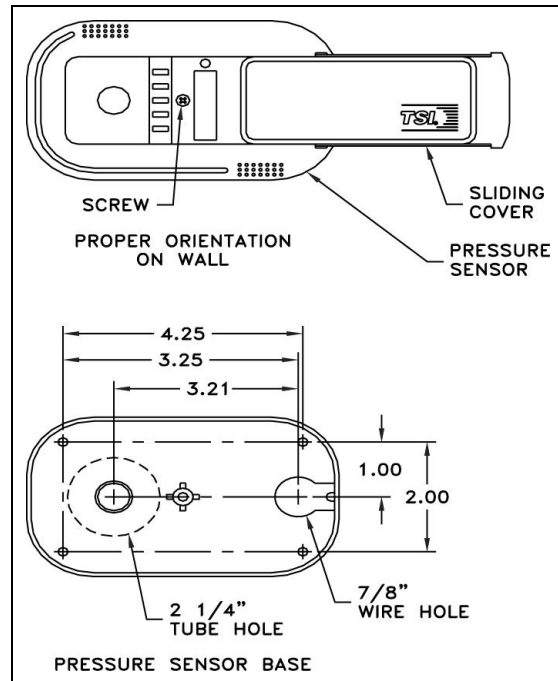

Figure 2: Pressure Sensor Orientation and Mounting Template
2. The pressure sensor must be orientated on the wall as shown in Figure 2. Looking at the mounted sensor, sensor hole is on the left (2 1/4") and wire hole is on the right.
4. Drill a 7/8-inch hole on the side of the wall that the pressure sensor will be mounted. This hole is for the six-conductor sensor cable. Refer to Figure 2 for a hole mounting pattern.
5. Slide sensor cover to right and remove screw that holds the sensor base to the pressure sensor (Figure 2). Remove pressure sensor and store in a safe place.